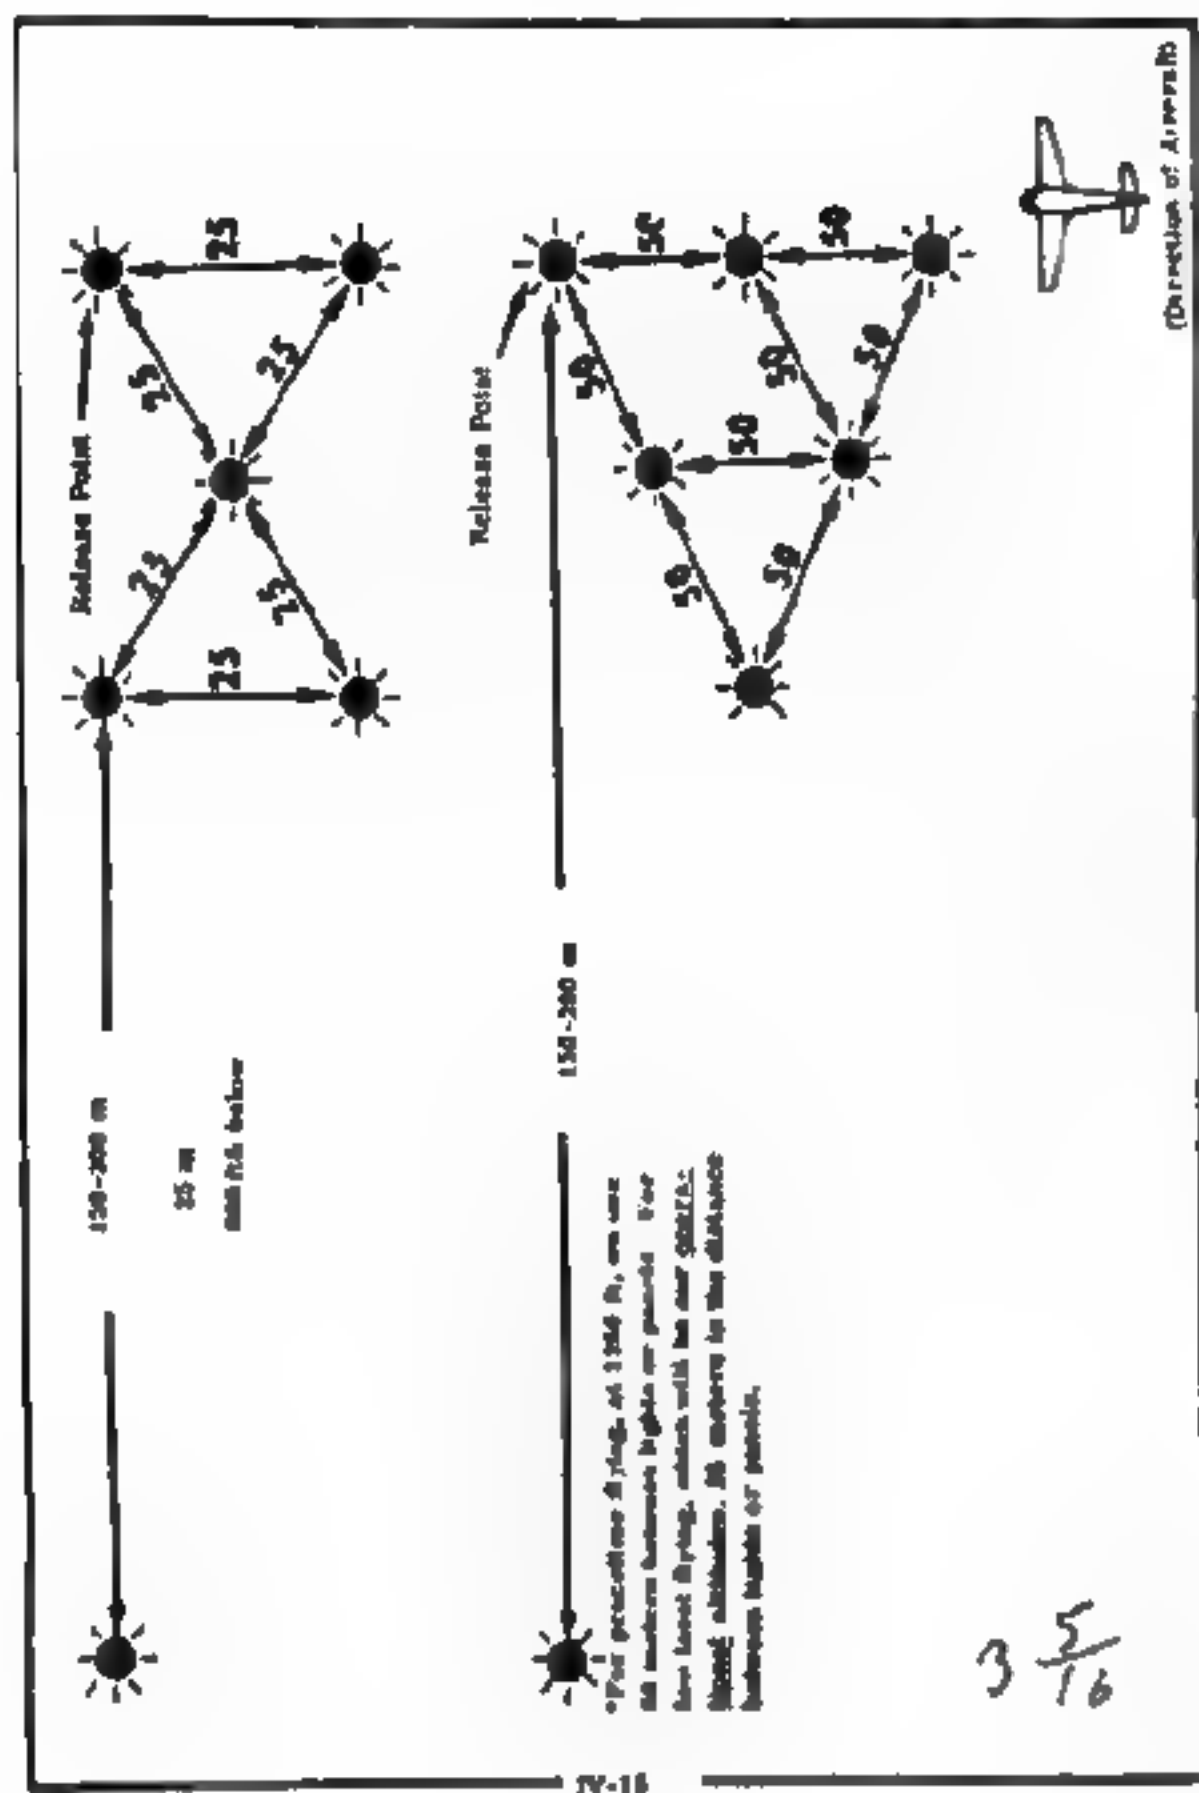

Figure 8. Sample DZ Martingo
2. Operational personnel drops or supply drops within a JWOA will normally be executed at altitudes between 600-800 feet for personnel and 400-600 feet for supplies. Release point markings are different numbers of lights with different configurations for each 24-hour period. The exact number of lights and the exact configuration is determined by the detachment SOI. (See Figure 8)